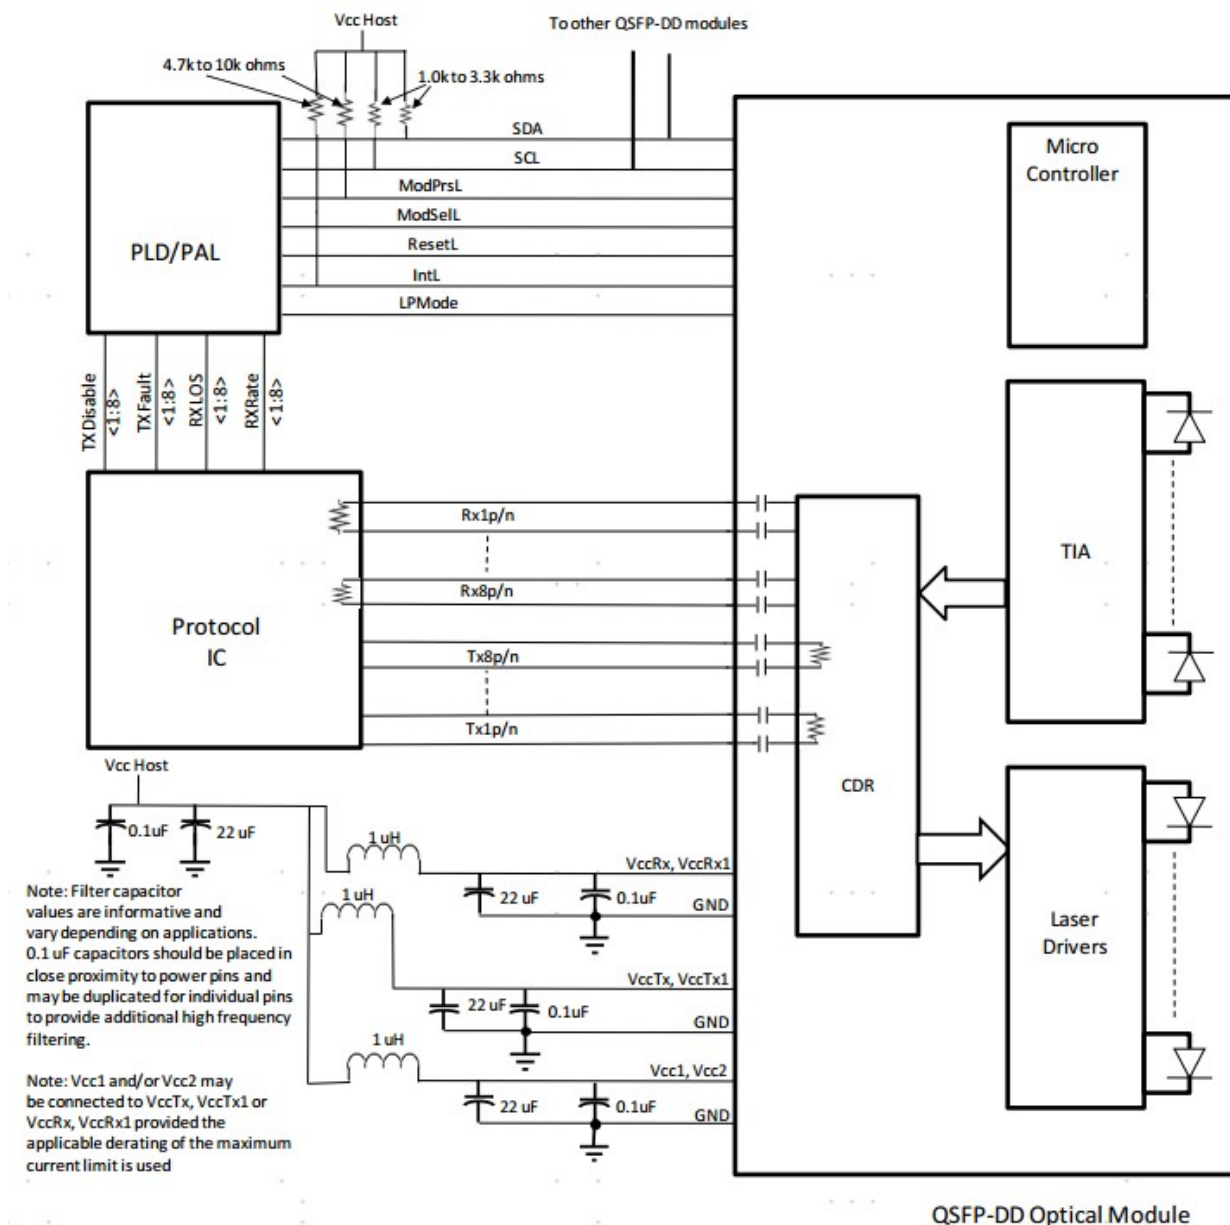

Figure 2. Example QSFP-DD Host Board Schematic for Optical Modules
4. Plug Sequence specifies the mating sequence of the host connector and module. The sequence is 1A, 2A, 3A, 1B, 2B, 3B. (see Figure 2 for pad locations) Contact sequence A will make, then break contact with additional QSFP-DD pads. Sequence 1A and 1B will then occur simultaneously, followed by 2A and 2B, followed by 3A and 3B.